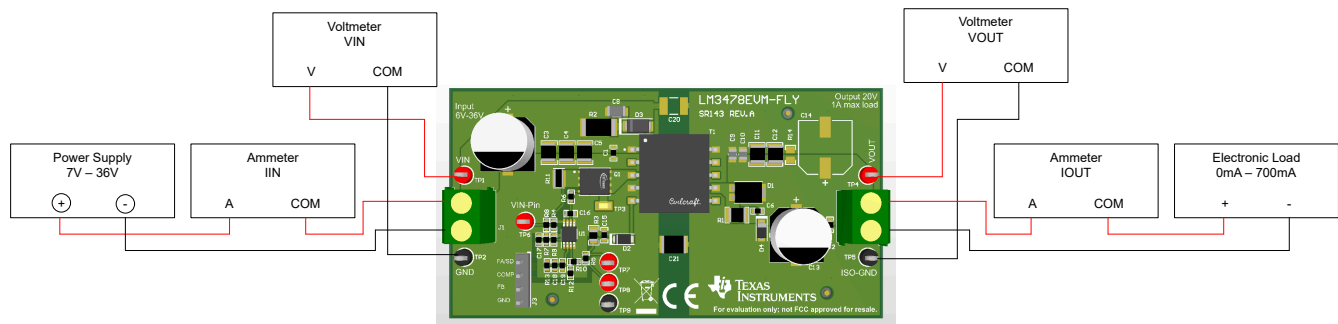

Figure 3-1. EVM Test Setup
1. Connect the power supply and load to the according EVM connections following Figure 3-1.